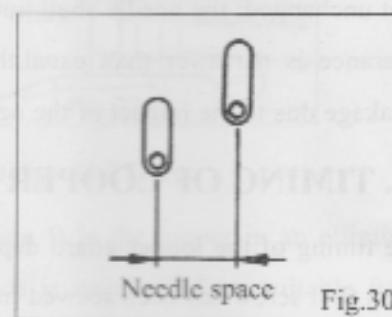

Fig.30
26. CHANGING THE NEEDLE SPACE(Fig.30)